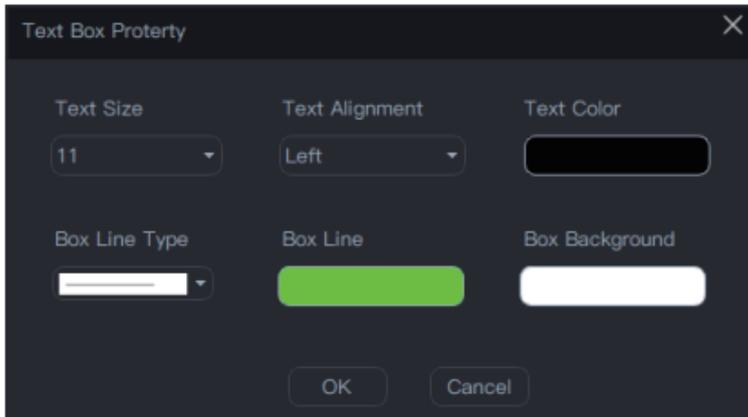

Figure 38
(3) Box 3: text box. The right button of the text box has property and delete functions, as shown in Figure 38. "Delete" is to clear the text.